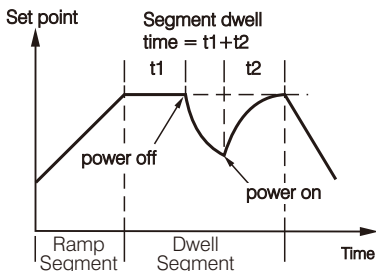
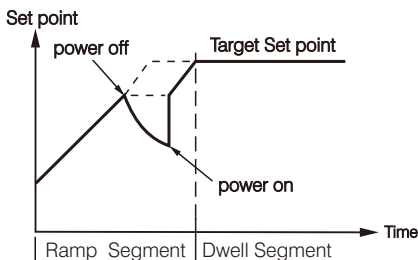

Figure 4.3 Recovery from profile at dwell segment
Figure 4.4 Recovery from profile at ramp segment
If power is lost and then restored, while a profile is running, the behavior of the profile is determined by the setting of the parameter "PFR" power fail recovery in profile configuration. This can have one of 4 settings - *cont*, *pu*, *sp l* and *off*. If *cont* is selected, then when power is restored the profile continues from where it was interrupted when power was lost. The parameters such as set point value (SV), time remaining (TIME) and cycle remaining (CYCL) will be restored to their power-down values. For application that need to bring the process value to the set point value as soon as possible, this is the best choice. The two diagrams below illustrate the respective responses, Fig. 4.3 if power fails during a dwell segment and Fig. 4.4 if it fails during a ramp segment.